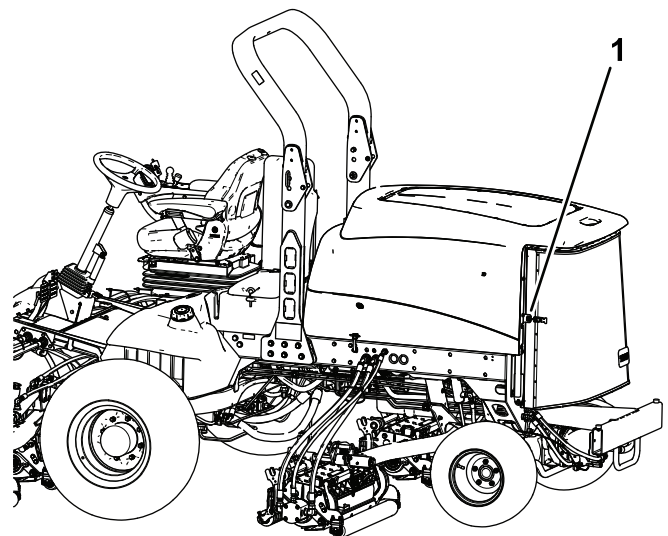

Figure 102
2. Unlatch and swing open the rear screen (Figure 102).